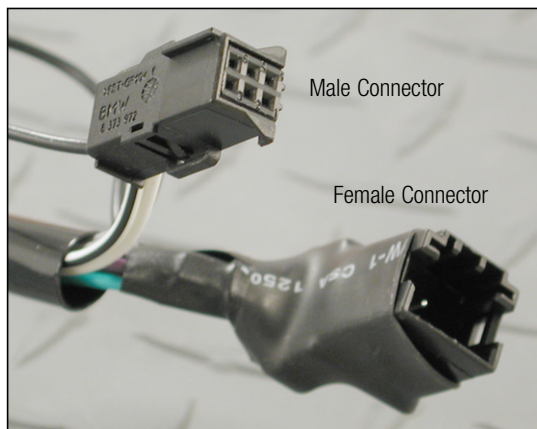

Figure 1
- A. Connect the 6-pin male connector on the SDSBMW harness (Figure 1 at right) to the factory CD changer.
- B. Plug the factory 6-pin male connector into the female connector on the SDSBMW harness (Figure 1 at right).